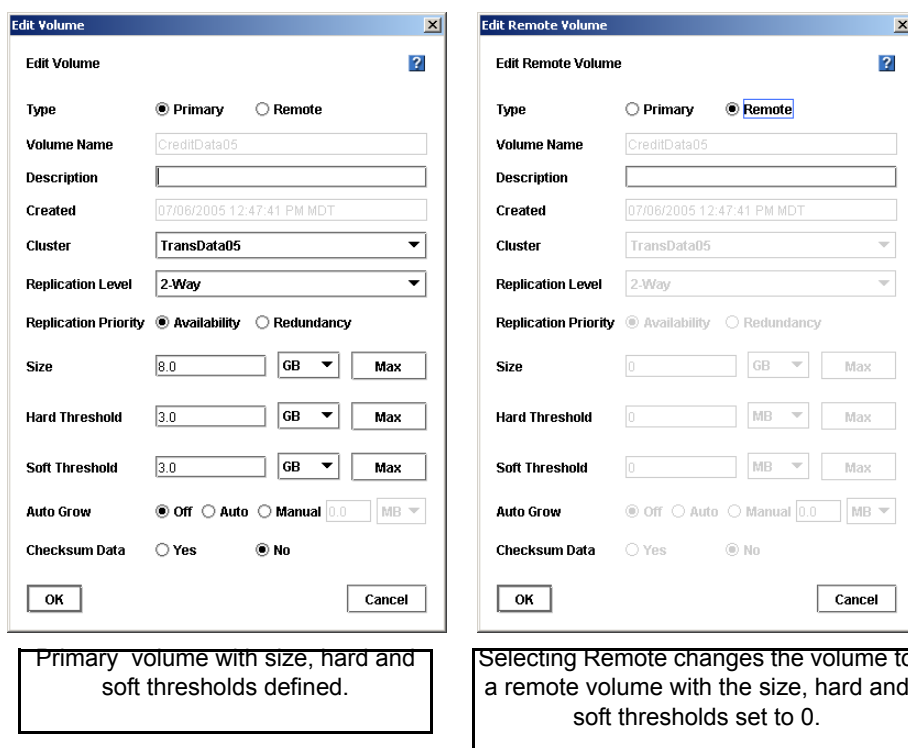

Figure 250. Volume Changed from Primary to Remote
3. Change the Type from Primary to Remote. Notice that the window changes to the Edit Remote Volume window, and all the fields are greyed out, as shown in Figure 250. Additionally, the values in the size, hard threshold and soft threshold fields are set to 0.